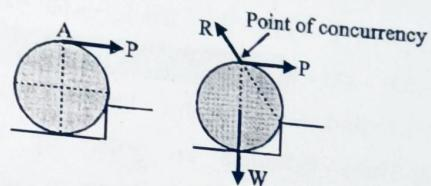

Fig 2.26
- Equilibrium of body subjected to three force (Fig 2.26): When a body is in equilibrium and acted upon by three forces then these three forces will be either concurrent or parallel forces